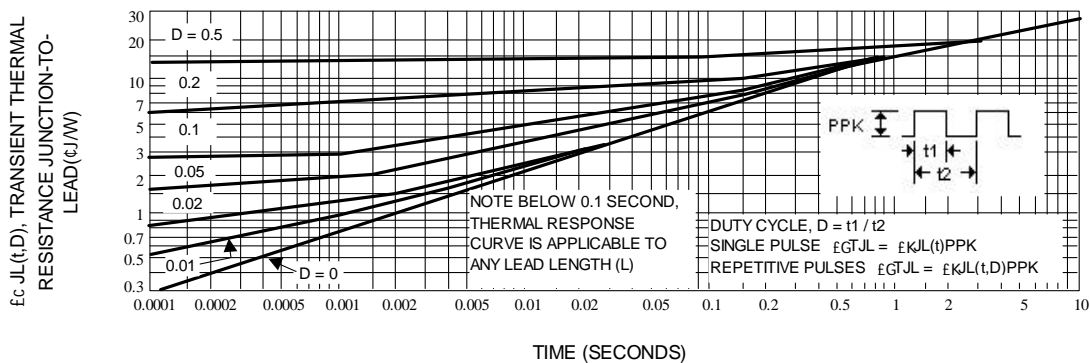
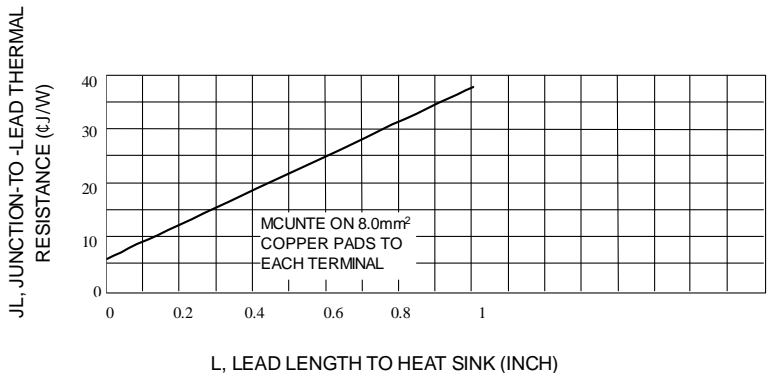
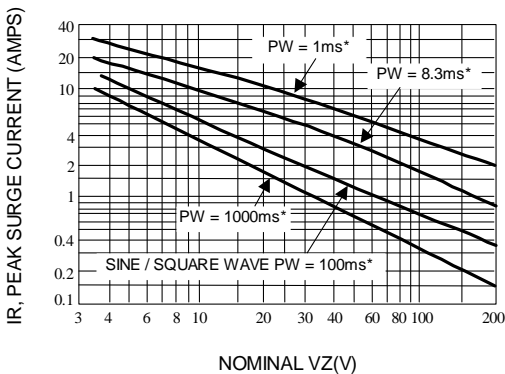
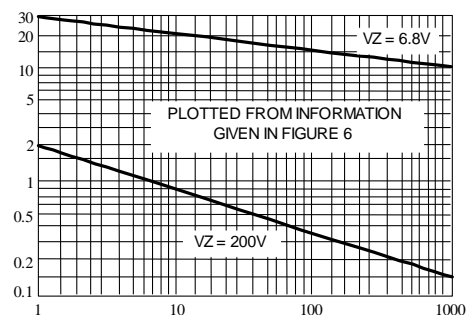

Fig. 3-TYPICAL THERMAL RESPONSE
Fig. 4-TYPICAL THERMAL RESISTANCE
Fig. 5-MAXIMUM NON-REPETITIVE SURGE CURRENT VERSUS NOMINAL ZENER VOLTAGE (SEE NOTE 3)
Fig. 6-PEAK SURGE CURRENT VERSUS PULSE WIDTH(SEE NOTE 3)
3. **SURGE CURRENT ( $I_r$ )** - Surge current is specified as the maximum allowable peak, non-recurrent square-wave current with a pulse width, PW, of 8.3 ms. The data given in Figure 5 may be used to find the maximum surge current for a square wave of any pulse width between 1 ms and 1000ms by plotting the applicable points on logarithmic paper. Examples of this, using the 6.8v and 200V zeners, are shown in Figure 6. Mounting contact located as specified in Note 3. ( $T_A=25 \text{ }^{\circ}\text{C}$ ). ( $T_A=25 \text{ }^{\circ}\text{C}$ ).
$\Delta T_{JL}$  is the increase in junction temperature above the lead temperature and may be found from Figure 3 for a train of power pulses or from Figure 4 for dc power.
Data of Figure 3 should not be used to compute surge capability. Surge limitations are given in Figure 5. They are lower than would be expected by considering only junction temperature, as current crowding effects cause temperatures to be extremely high in small spots resulting in device degradation should the limits of Figure 5 be exceeded.
\*\*\* Data of Figure 3 should not be used to compute surge capability. Surge limitations are given in Figure 5. They are lower than would be expected by considering only junction temperature, as current crowding effects cause temperatures to be extremely high in small spots resulting in device degradation should the limits of Figure. 5 be exceeded